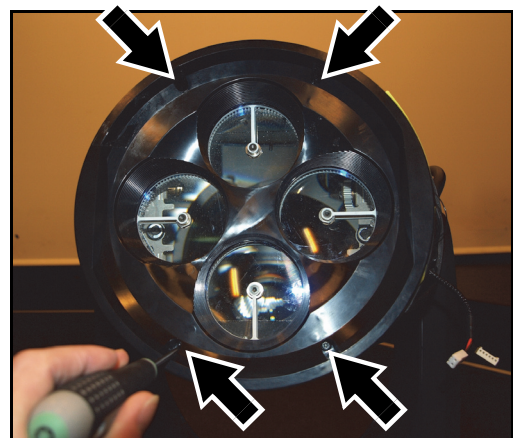

Figure 5
7. See Figure 5. Fasten the Quadray Module securely onto the front of the head with its four screws.